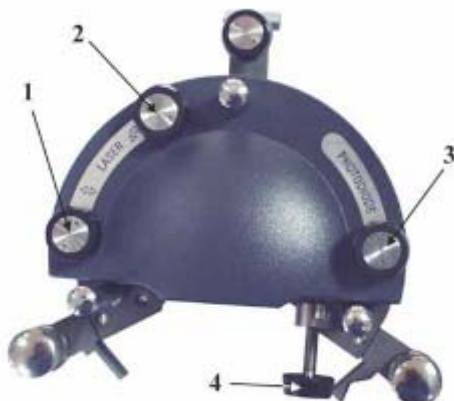
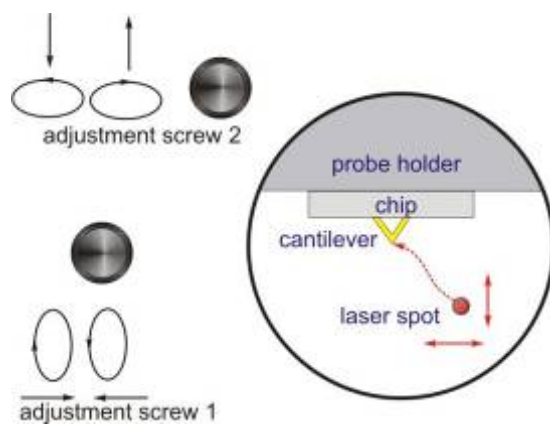
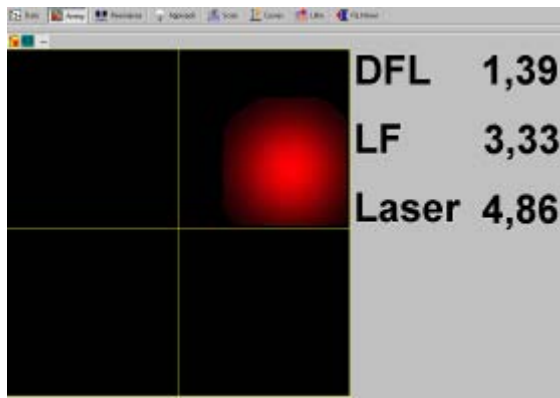

Fig. 2-81
Fig. 2-82
Fig. 2-98
- The laser beam is focused in a point on the plane in which the cantilever lies. The beam can be moved relative to the cantilever with a help of adjustment screws 1 and 2 (Fig. 2-81, Fig. 2-82);
- The purpose of the beam aligning is to steer the laser spot onto the cantilever's end using adjustment screws 1 and 2 as shown schematically in Fig. 2-82;
Note. When making the alignment it's necessary to place the photodiode in such position in relation to the laser ray so that reflecting from a cantilever it goes to the central part of the photodiode, illuminating all for segments to the equal extent. Movement of the photodiode is effected with the help of two aligning screws 3 and 4, placed on the measuring head (Fig. 2-81). Meantime, the screw 4 corresponds to the movement of photodiode in vertical direction in relation to the cantilever's plane, and screw 3 – in a lateral direction
- Usually, as soon as it's managed to place the laser ray to the cantilever, some indications different from zero appear at the indicator of the photodiode (Fig. 2-98);
- Using screw 4 and 3 head (Fig. 2-81), it's necessary to move the spot at the indicator of photodiode into the center (Fig. 2-98), so, accordingly, meantime, the values of DFL and LF signals must be lead to zero and the amount of the summary LASER signal must be rather big;
- Meantime DFL and LF signals, when rotating handles 4 (DFL) and 3(LF) into forward and backward directions relatively to the zero direction, must change the sign. If some of these signals, when rotating the correspondent screw decreases to zero value, but doesn't change a sign, then it's necessary to rotate this screw into the opposite direction until it's found the position where the signal changes the sign.